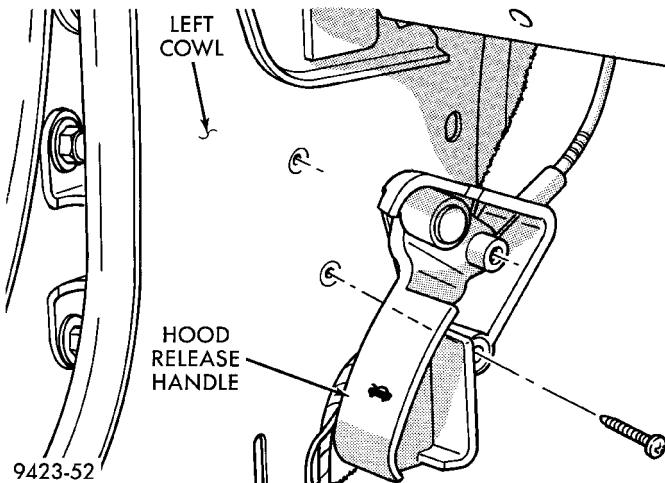

Fig. 3 Hood Release Cable
- (1) Disconnect remote hood release cable from hood latch.
- (2) Remove left front cowl trim panel.
- (3) Remove screws holding hood release handle to cowl panel (Fig. 3).
- (4) Disengage rubber grommet from dash panel behind instrument panel.
- (5) Pull release cable through hole in dash panel.
- (6) Separate cable and handle from vehicle.